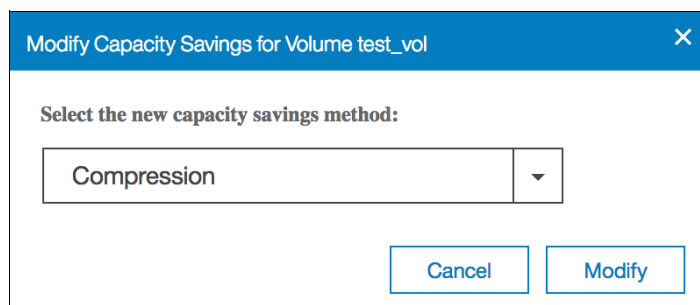

Figure 9-33 Selecting Capacity Setting
2. In the menu select **Compression** as the Capacity Savings option, as shown in Figure 9-33.